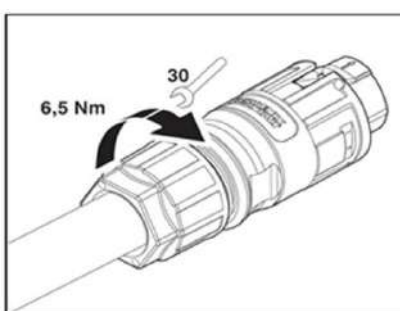

Fig. 18: Tightening the cable fitting
- Tighten the cable fitting with an open-end spanner  $\times W_{30}$  6.5 Nm (Interconnection Fig. 18).